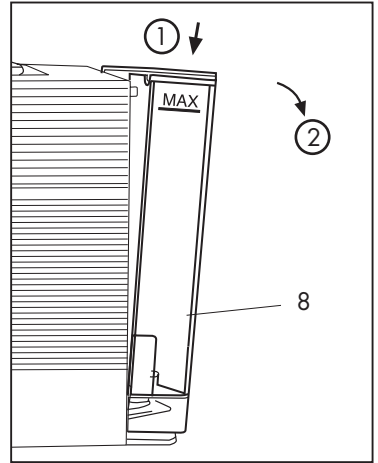

Fig. 1
- To extract the tank (8), press it down and turn it outwards at the same time. **(Fig.1)**